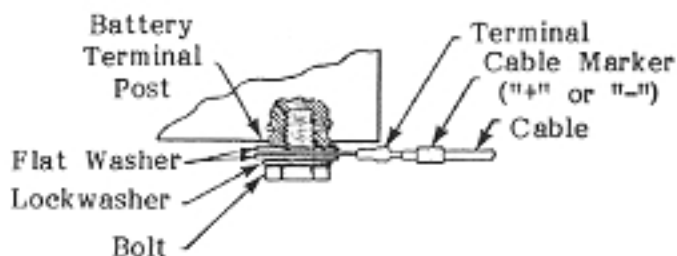

FIGURE 13
02.46 Connect the battery fuse (or circuit breaker) lead to the negative terminal on battery #1 (Figure 13).
02.48 Connect the positive wire to the positive terminal of battery #2 (see Figure 13).